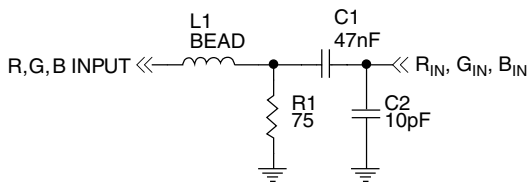

Figure 25. RGB Input Filter Option
5. If necessary, limit bandwidth by adding a ferrite bead in series with each RGB input as shown in Figure 25. A Fair-Rite #2508051217Z0 is recommended. Alternatively, bandwidth reduction using a shunt 10pF capacitor may reduce snow (intensity noise) caused by HF noise riding on the RGB input. Mismatches, reflections and noise may cause ringing or distortion of the incoming video signals.